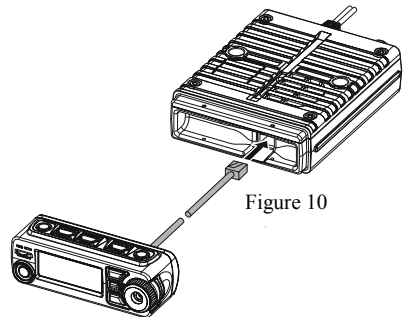

Figure 10
7. Connect the 8-pin modular plug of the Connection Cable to the Transceiver (Figure 10).